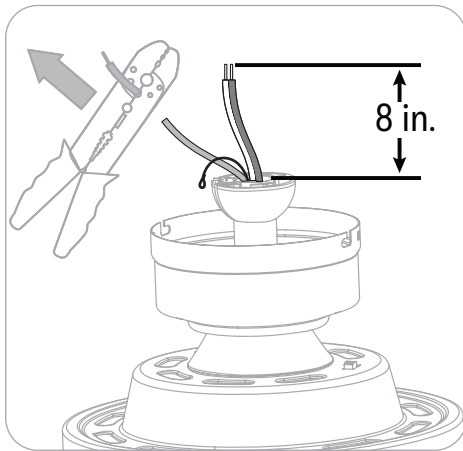

Figure 3.4
4. Depending on the length of downrod you use, you may want to cut the fan wires to simplify wiring. After pulling the wires all the way through the downrod, measure 8 inches of wire. Cut off the excess wire using wire cutters (not included). **Warning:** Do NOT cut braided cable. Then strip 1/2 inch of insulation from the end of each wire strand (Figure 3.4).